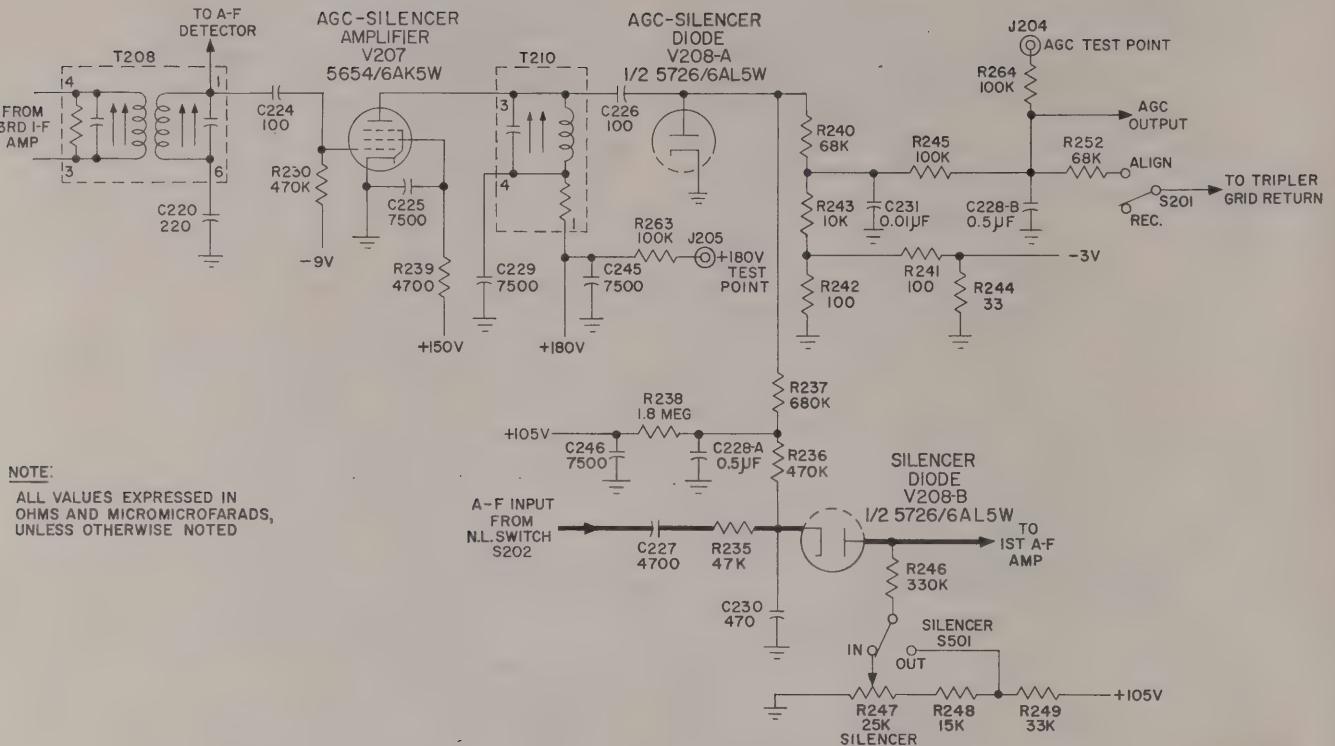

Figure 2-9. AGC and Silencer Circuits, Simplified Schematic Diagram
e. AGC-SILENCER AMPLIFIER. — The AGC-silencer amplifier, shown in figure 2-9, amplifies the output from the i-f amplifiers to a level which is suitable for use in the AGC and silencer circuits. The i-f signal from terminal 1 of transformer T208 is coupled through capacitor C224 to the control grid of V207, a 6564/6AK5W pentode amplifier. The grid is biased from the -9-volt source in the power supply, through resistor R230. The screen grid is supplied from the +150-volt source in the power supply, and is decoupled from the power supply by resistor R239 and capacitor C225. Plate voltage is supplied from the +180-volt source, through transformer T210. T210 comprises a parallel-resonant circuit at the second
f. AGC-SILENCER DIODE. — The AGC-silencer diode, V208-A, is a shunt rectifier which provides the required d-c voltages for the AGC and silencer circuits. As shown in figure 2-9, one half of a 5726/6AL5W twin diode is utilized in the circuit. When switch S201 is in the REC. position, the diode load consists of resistors R240 and R243 in series with the series-parallel network of R242, R241 and R244. The junction of resistors R241 and R244 is connected to the -3-volt bias source, so that the plate of V208-A is biased at approximately -1.8 volts. When the peak value of the 1.775-mc signal, coupled to the diode plate from V207, exceeds this delay bias, the diode conducts and a negative rectified voltage is developed across the load resistors. The voltage which is obtained at the junction of R240 and R243 is the AGC voltage; this voltage is bypassed for radio frequencies by C231 and is fed to the AGC line through a low-pass filter, R245 and C228-B, which removes the audio-frequency components from the voltage. AGC voltage is applied to the first and second r-f amplifiers, first and second
g. SILENCER.—The noise silencer (squelch) circuit is used to prevent noise from reaching the audio section of the receiver in the absence of an incoming signal of some predetermined minimum level. Silencer diode V208-B, connected between N.L. switch S202 and first a-f amplifier V209-A, permits the audio signal to pass during conduction and cuts off the audio signal when it is not conducting. V208-B is one half of a type 5726/6AL5W dual diode; see figure 2-9. The silencer may be cut in or out of the receiver circuit by means of SILENCER switch S501. SILENCER potentiometer R247 is used to adjust the silencing threshold.